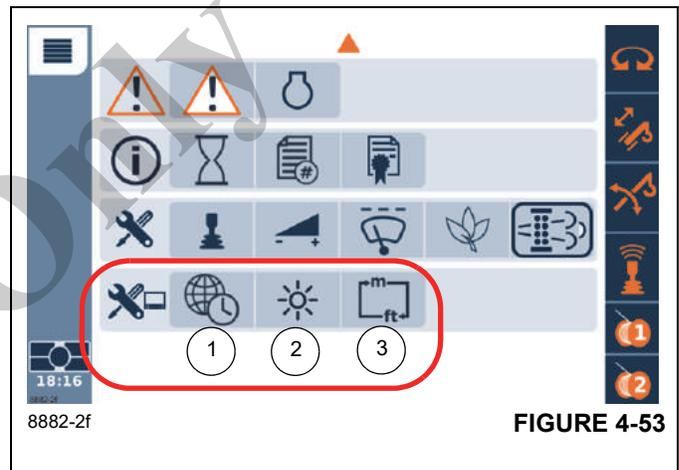

FIGURE 4-53
- Menu for Setting the Time Zone Function (1), (Figure 4-53), (refer to *Setting the Time Zone Function*, page 4-81).
- Menu for Setting the Display Screen Brightness Function (2), (Figure 4-53), (refer to *Setting the Display Screen Brightness Function*, page 4-81).
- Units of Measure Function (3), (Figure 4-53), (refer to *Setting the Units of Measure Function*, page 4-82).